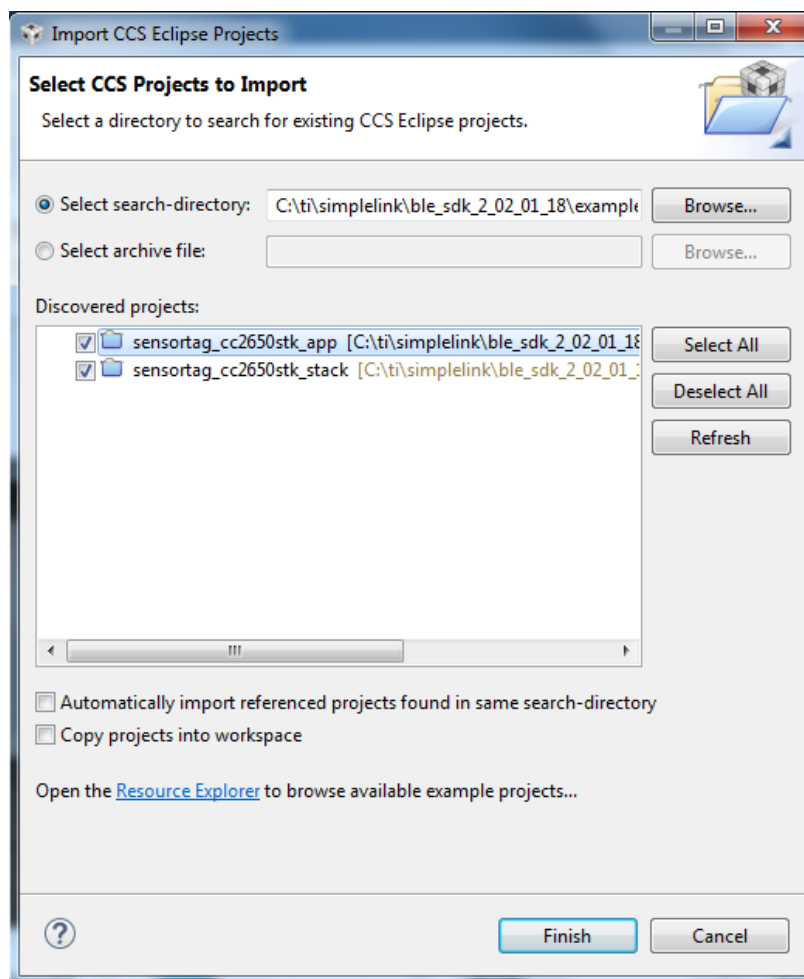

Figure 28, Select CCS Projects to import
- d. The Select CCS Project to Import page should now be open. (Figure 28)
- g. The sensortag\_cc2650stk\_app and sensortagcc2650stk\_stack projects should appear in the Discovered projects box (Figure 28).
- h. Check the box for each project (Figure 28).
- i. Make sure that "copy projects into workspace" box is unchecked (Figure 28).
- j. "Automatically import referenced projects found in same search-directory" box can be checked or unchecked (Figure 28).